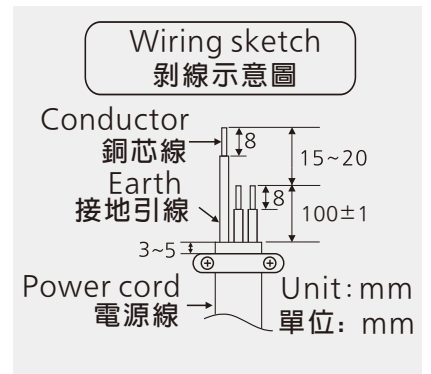

Figure 1
- ❗ For the stripping length, please according to the wiring sketch (refer to figure 1). If the stripping length is too long, it may cause short circuit.